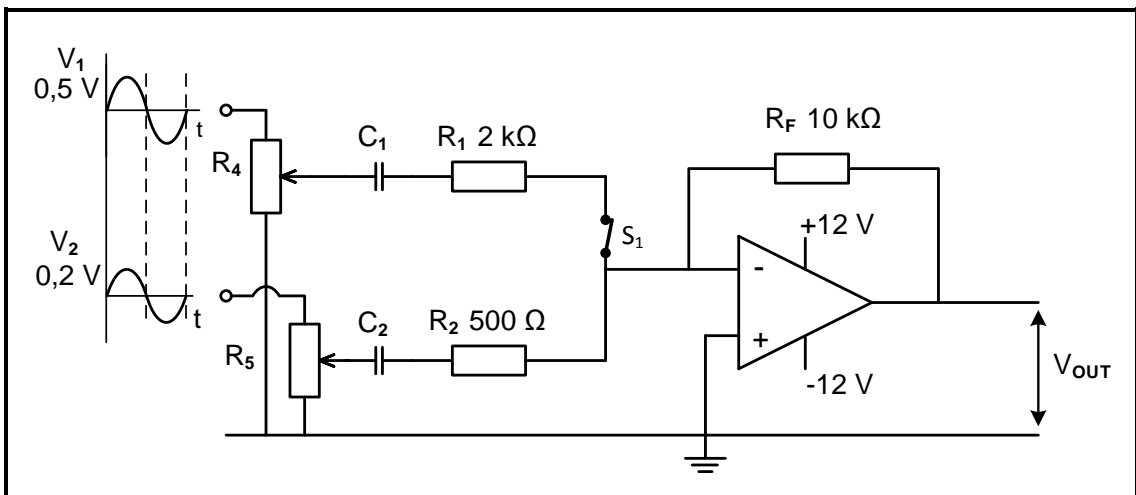

FIGURE 2.5: SUMMING AMPLIFIER
2.5 Refer to FIGURE 2.5 below and answer the questions that follow.